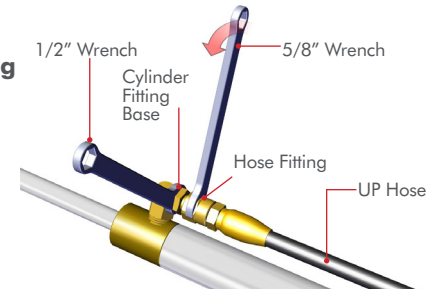

Figure 5
STEP 3: Disconnect the **UP Hose** from the **Hydraulic Cylinder Fitting** by holding the **Cylinder Fitting Base** with a 1/2" wrench and turning the **Hydraulic Hose Fitting** counter-clockwise with a 5/8" wrench. **FIG 5**